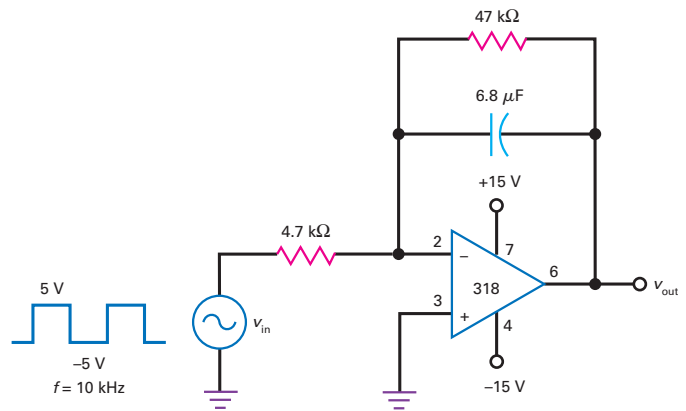

Figure 36-43
36.12 What is the output voltage in Fig. 36-43?
36.13 If the capacitance is changed to $0.068 \mu\text{F}$ in Fig. 36-43, what is the output voltage?